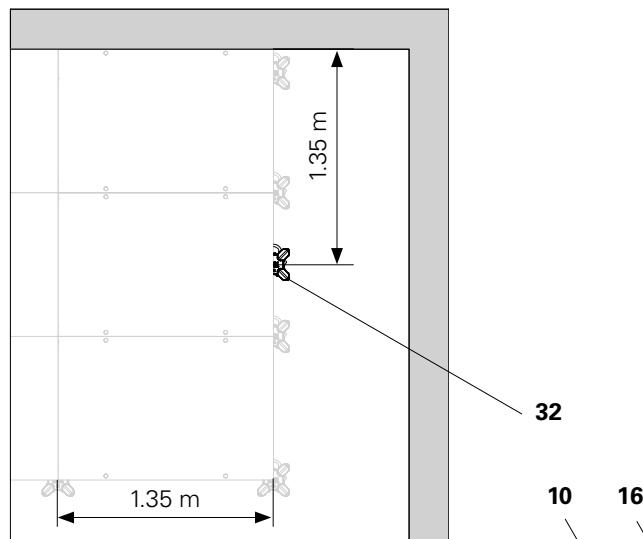

Fig. D3.01
1. Form the slab with the DP panel (10) to the greatest extent possible (Fig. D3.01), see also section D2.
2. Depending on the remaining dimension, select a standard panel (10) or a panel with a small width. The DP panel (10) is installed crosswise. Keep the compensation area as small as possible.
3. Mount the 18 DFS filler support (16) on the long panel side using 2 DUO couplers (21). The 18 DFS filler support (16) is equipped with teeth that grip into the connector pockets (10.2) of the DP panel. The teeth must point away from the concrete.
1. Place the slab prop with DFH prop-head (32) at the end of the panel in an inclined position from the inside and align outwards. Spacing 1.35 m (Fig. D3.01)